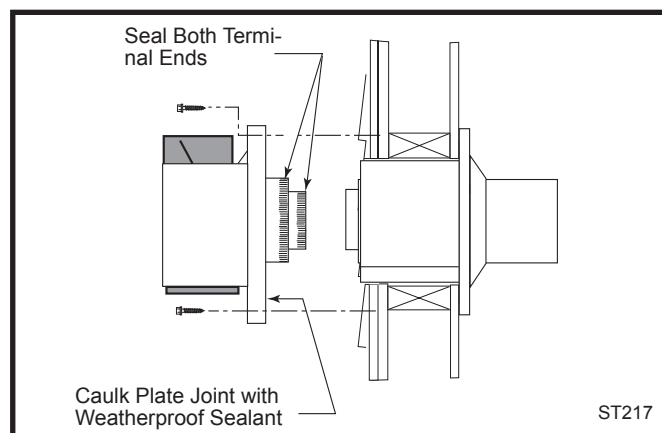

Fig. 29 Install the vent terminal.
- 10. For both CFM and DuraVent Systems:** Install the vent terminal. (Fig. 29) Apply high temperature sealant one inch from the ends of the inner and outer collars. Guide the inner and outer vent termination collars into the adjacent pipes. Double check that the vent pipes overlap the collars by 2". Fasten the termination to the wall with the screws provided, and caulk the joint with weatherproof sealant.